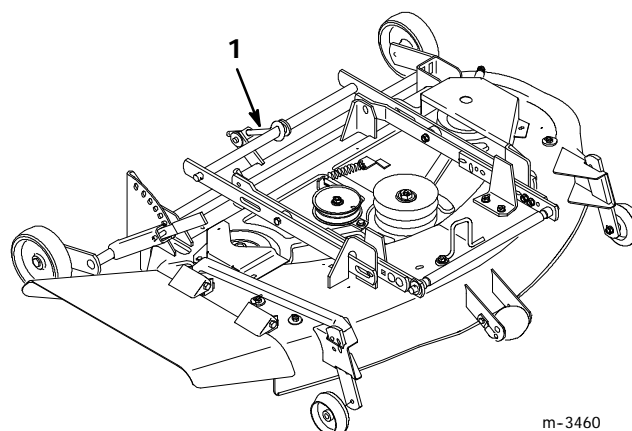

Figure 16
- Front-to-rear adjustment is made by turning the adjusting nut (Fig. 16) on the back of the mower. To raise the front of the mower, turn the adjustment nut clockwise. To lower the front of the mower, turn the nut counterclockwise.